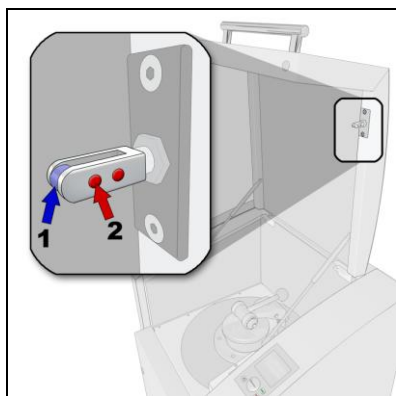

Fig. 17 Locking bolt
- Check that roller 1 in the locking bolt moves easily. If it doesn't, oil it, e.g. with sewing machine oil. (Fig. 17 Locking bolt)